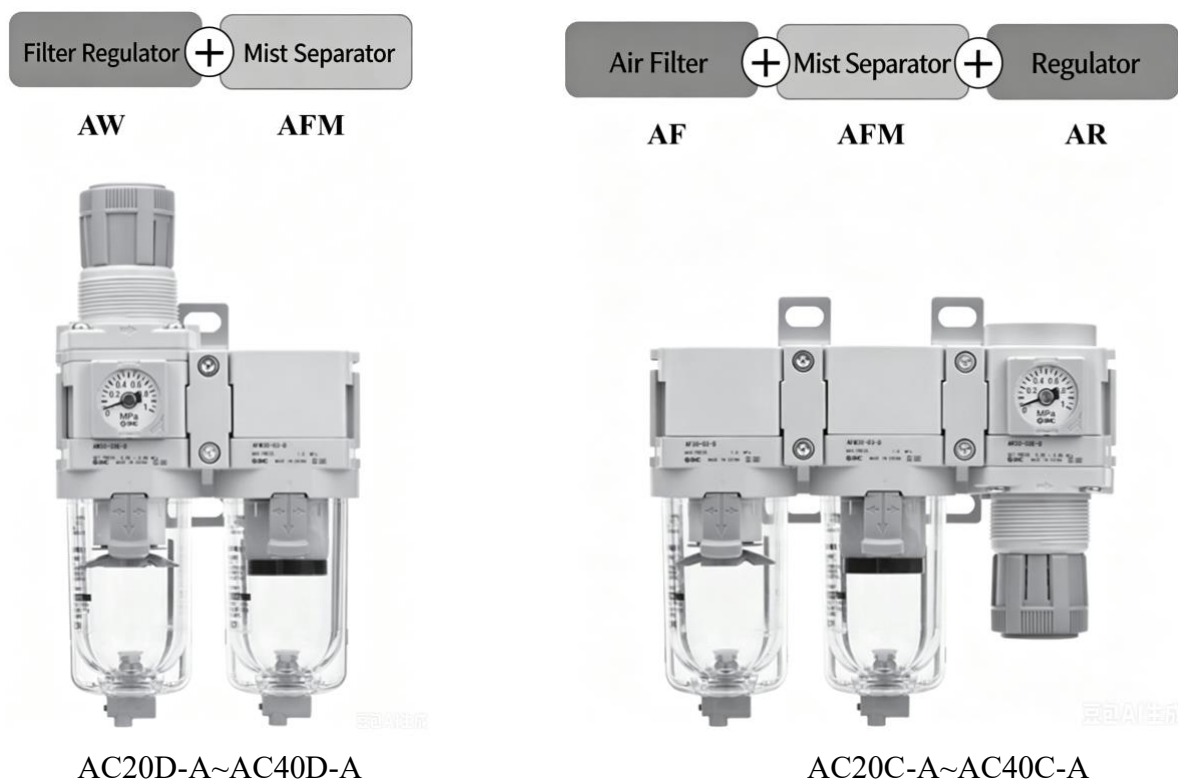

Figure 2. Filter Regulator Assembly
- ① Install a compressed air dryer on the main pipeline to remove most moisture contained in compressed air; the pressure dew point after filtration can reach -20°C .
- ② Select one of the air preparation assemblies shown in Figure 2 and install it upstream of the positioner. Depending on the selected configuration, install the filter regulator or air filter upstream, followed by the mist separator downstream. The filtration system shall remove particles larger than $5.0\text{ }\mu\text{m}$ and reduce the residual oil concentration to no more than 1.0 mg/m^3 .